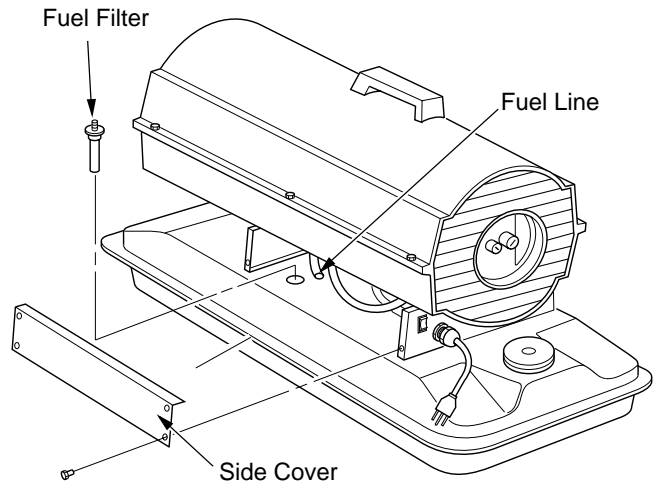

Figure 9 - Fuel Filter Removal, BY35CEH and BY70CEH Models
3. Remove 4 side cover screws with a 5/16" nut driver. Remove side cover (see Figure 9 or 10, page 8).
12. Replace side cover (see Figure 9 or 10, page 8).